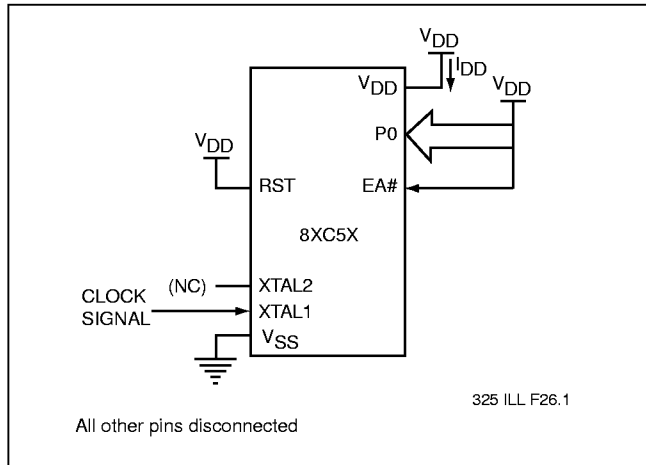

FIGURE 24: I_{DD} TEST CONDITION, ACTIVE MODE
7. See Figures 24, 25, 26 and 27 for test conditions. Minimum V_{DD} for Power Down is 2 V.